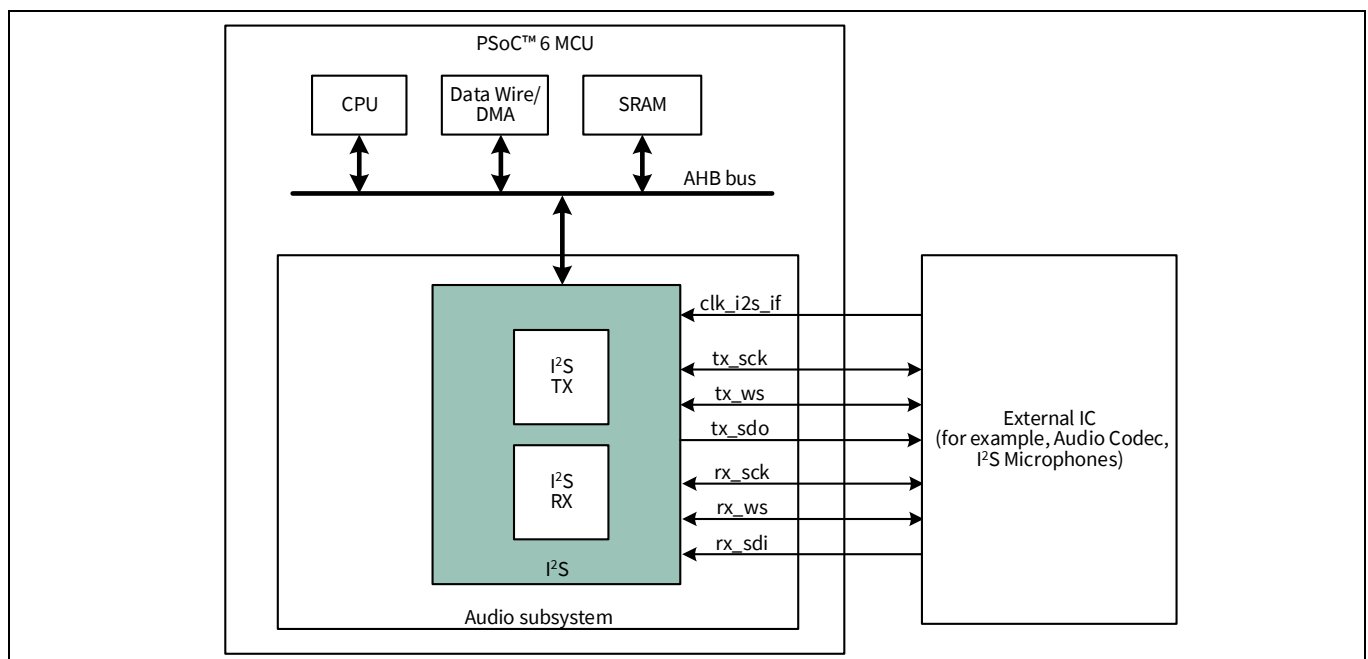

Figure 29-1. I²S block diagram
Figure 29-1 shows the high-level block diagram of the I²S block, which consists of two sub-blocks – I²S Transmitter (Tx) and I²S Receiver (Rx). The digital audio interface format and master/slave mode configuration can be done independently for the Tx and Rx blocks. In the master mode, the word select (ws) and serial data clock (sck) are generated by the I²S block in the PSoC™ 6 MCU. In the slave mode, the ws and sck signals are input signals to the PSoC™ 6 MCU, and are generated by the external master device. The I²S block configuration, control, and status registers, along with the FIFO data buffers are accessible through the AHB bus. AHB bus masters such as CPU and DMA can access the I²S registers through the AHB interface. See the device datasheet for information on port pin assignments of the I²S block signals and AC/DC electrical specifications.
- The I²S block in the PSoC™ 6 MCU interfaces with an audio codec device based on the choice of codec device and the end application requires and sck signals for the Rx and Tx directions: To interface with these codecs, the connections between the PSoC™ I²S block and the codec device will be as shown in Figure 29-1 where the PSoC™ I²S Tx signals (tx_sck, tx_ws, tx_sdo) connect to the codec Rx signals, and the PSoC™ I²S Rx signals (rx_sck, rx_ws, rx_sdi) connect to the codec Tx signals. The direction of sck (tx_sck, rx_sck) and ws (tx_ws, rx_ws) signals depends on which device is the master and which device is the slave.